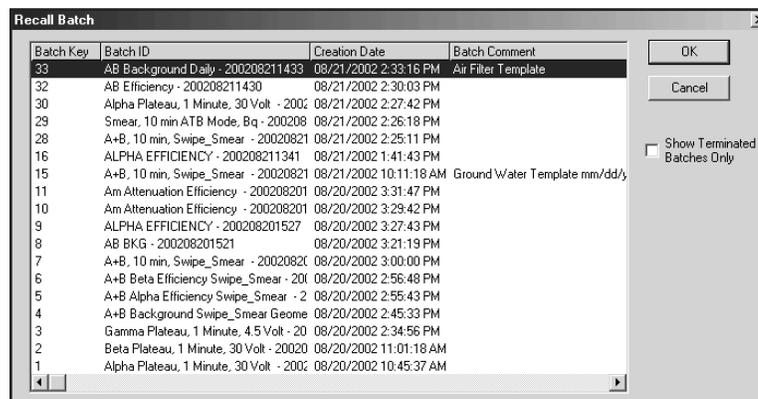

Figure 28 Recalling Previously Run Batch
**Recall Batch** displays the Recall Batch screen (Figure 28). To recall a batch, highlight the batch of interest and click **OK**.